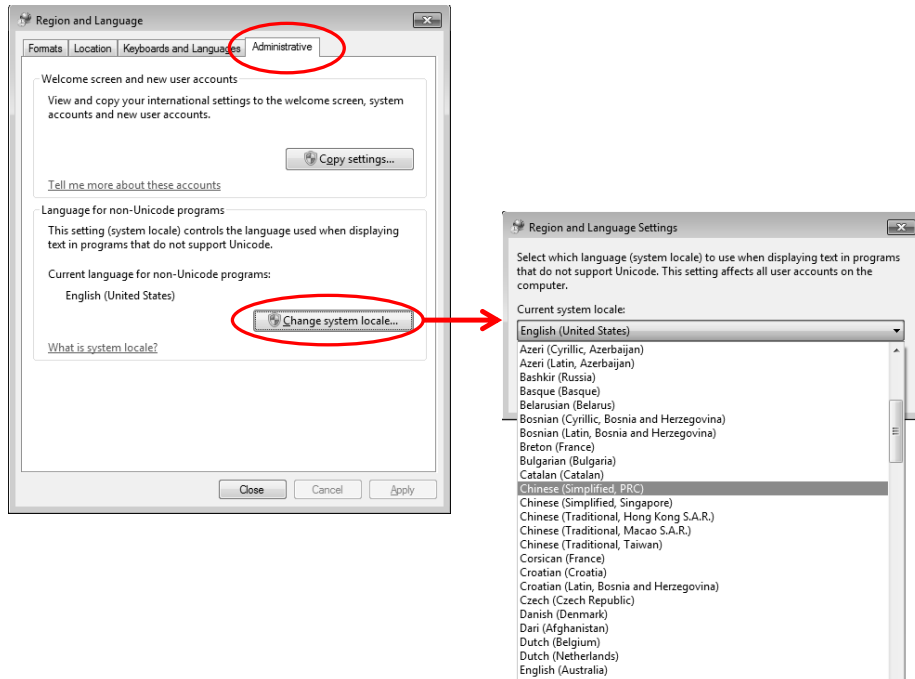

Figure 8. Changing System Locale
3. Go to the Administrative tab and click “Change system locale ...” .See Figure 8 (page 59).